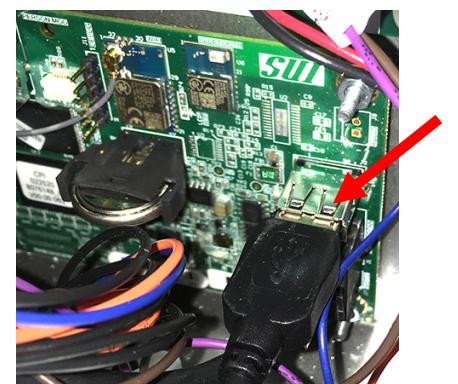

Figure 44
55. Attach the USB end of cable from modem in step 46 to KCCM board (see Figure 44).